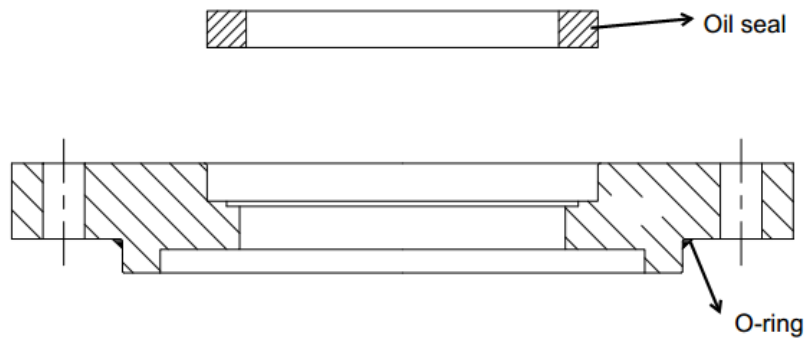

Figure 49 Output shaft seal and O-ring replacement
- b) Remove the old seal then apply some 3# General purpose lithium lubricating grease into the new seal (NOK TC $\Phi 120 \times \Phi 150 \times 14$), install it into the bearing cover2. See Figure 49.
- e) Remove the old O-ring then apply some 3# General purpose lithium lubricating grease into the new O-ring ($\Phi 214.3$ (ID) $\times 5.7$), install it into the bearing cover2.